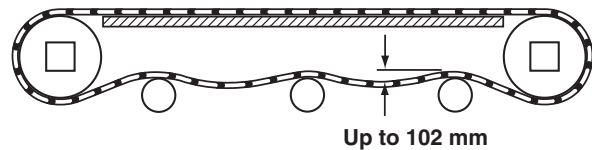

Figure 50
4. Check belt sag by measuring from the top of the return (Figure 50). Belt sag should not exceed 102 mm. Follow steps 7 – 9 in the “Belt Installation” section on page 14 to remove slack from the belt.